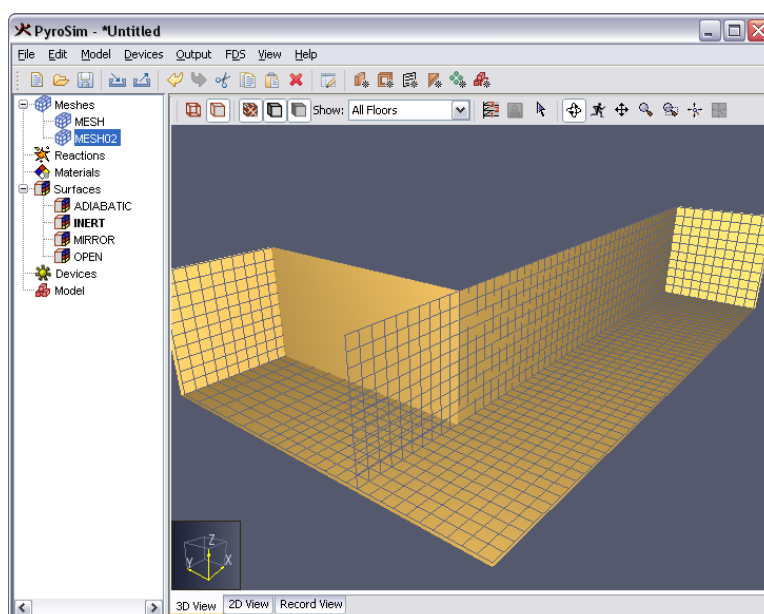

Figure 28. 3D display of first and second mesh
- If the geometry of the problem has corridors such as shown in Figure 28, using multiple meshes can significantly reduce the number of cells and the solution time.